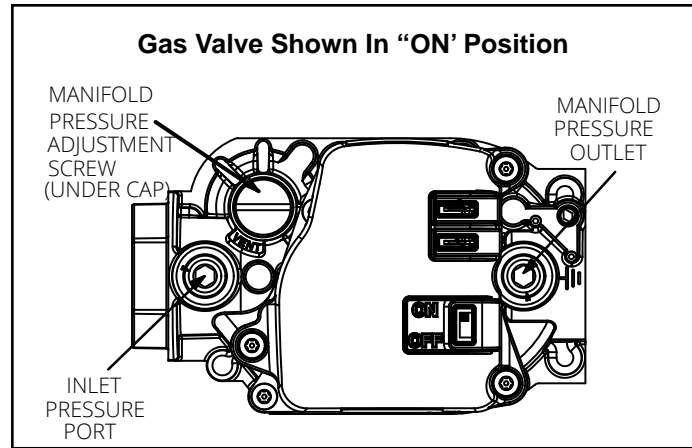

Figure 59.
See Figure 59
6. Move gas valve switch to OFF. See Figure 59.
8. Move gas valve switch to ON. See Figure 59.